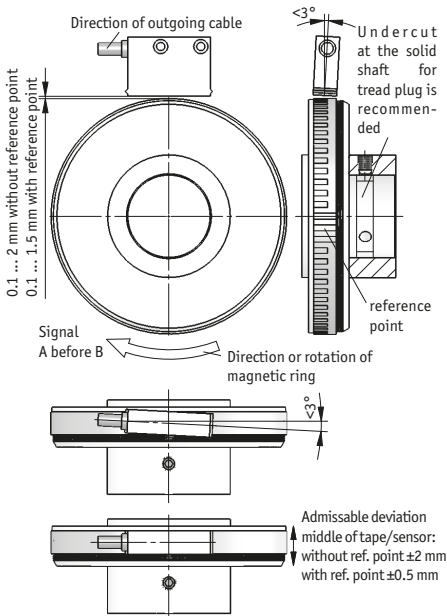

Fig. 7: Definition of the counting direction with magnetic ring and assemblage sensor/magnetic ring, gap measure, tolerances
- Provide for a relief groove in the solid shaft (see fig. 7).